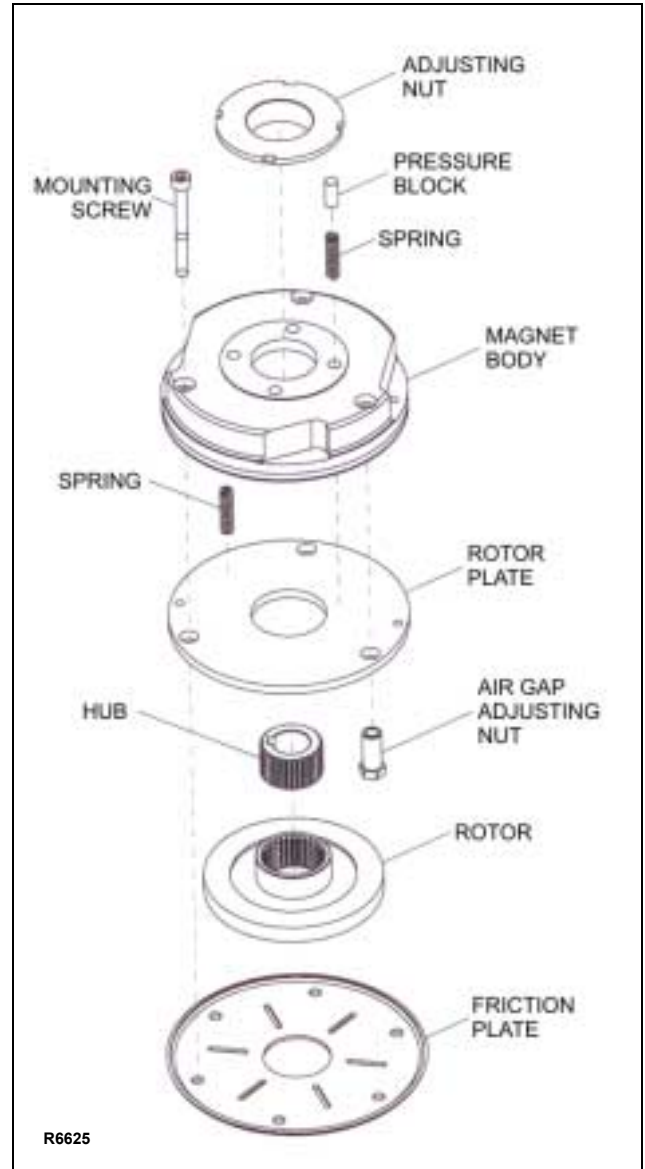

Figure 6-1 Brake Assembly
5. If necessary, refer to Figure 6-1 and adjust the gap as follows:
3. Rotate the adjusting nut (Figure 6-1) clockwise to SHORTEN the stopping distance or counterclockwise to LENGTHEN the stopping distance.
4. Remove the three mounting screws (Figure 6-1) and the brake.